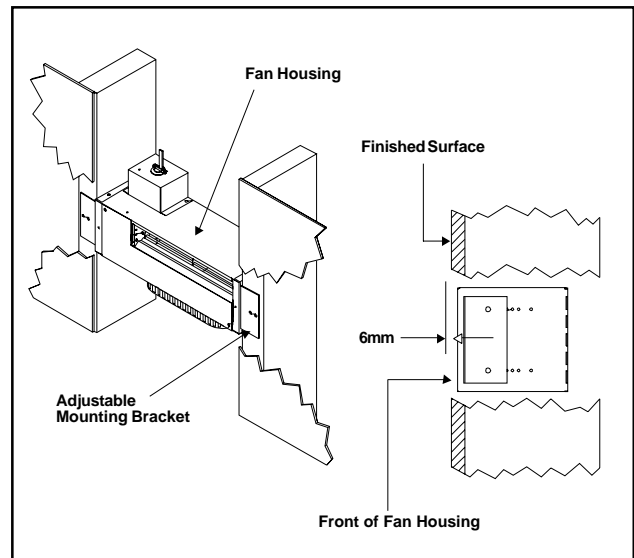

Figure 3
4. Mount and secure the fan housing assembly to framing members so the front surface is 6mm below the finished wall or floor surface. Use the adjustable mounting brackets and screws provided in the kit. See Figure 3.